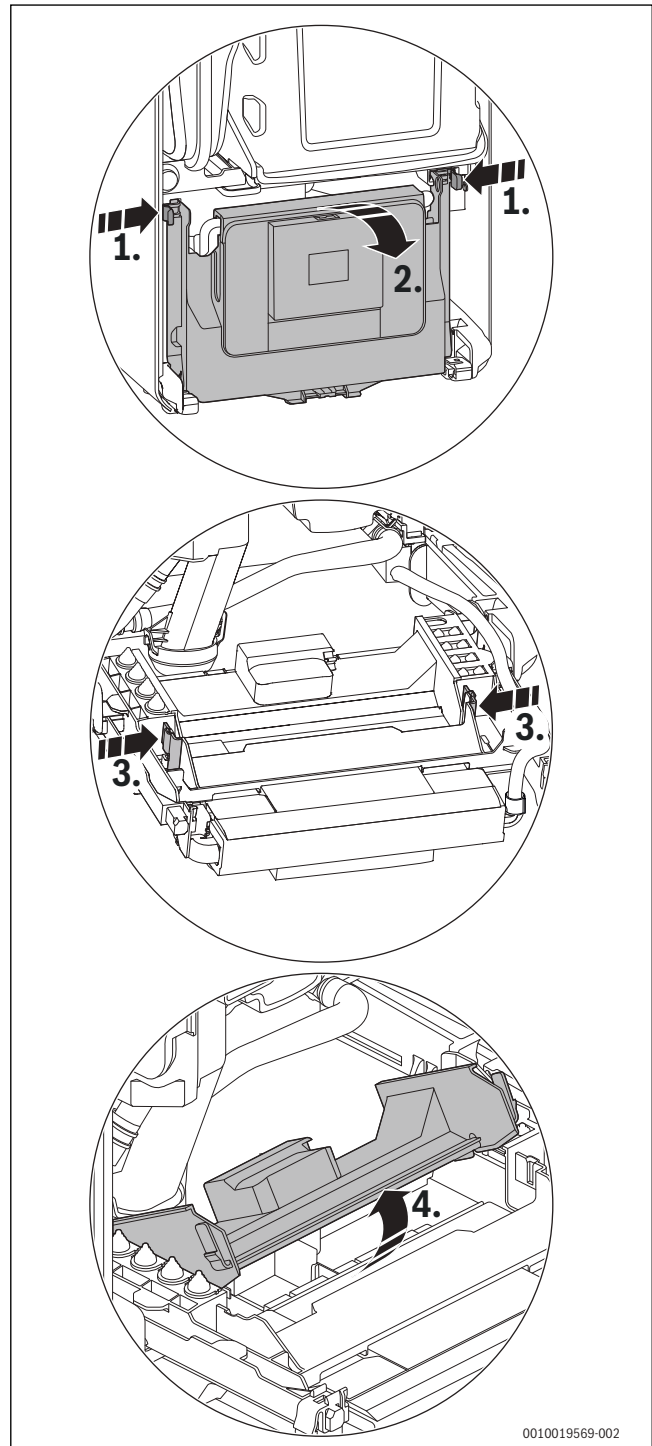

Fig. 53 Opening the cover
If the power cable is of insufficient length, accessing the connection terminal (→ Fig. 53)
- ▶ Flip down the control appliance (→ Fig. 53).